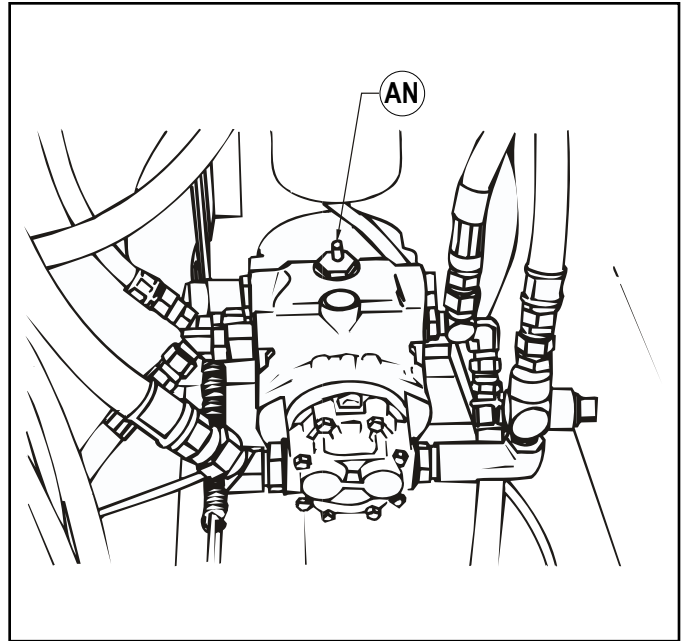

FIGURE 21
TOWING INSTRUCTIONS (SEE FIGURE 21)
1. Locate Tow Control shaft Extension (**AN**) as shown in Figure 21. (See arrow)